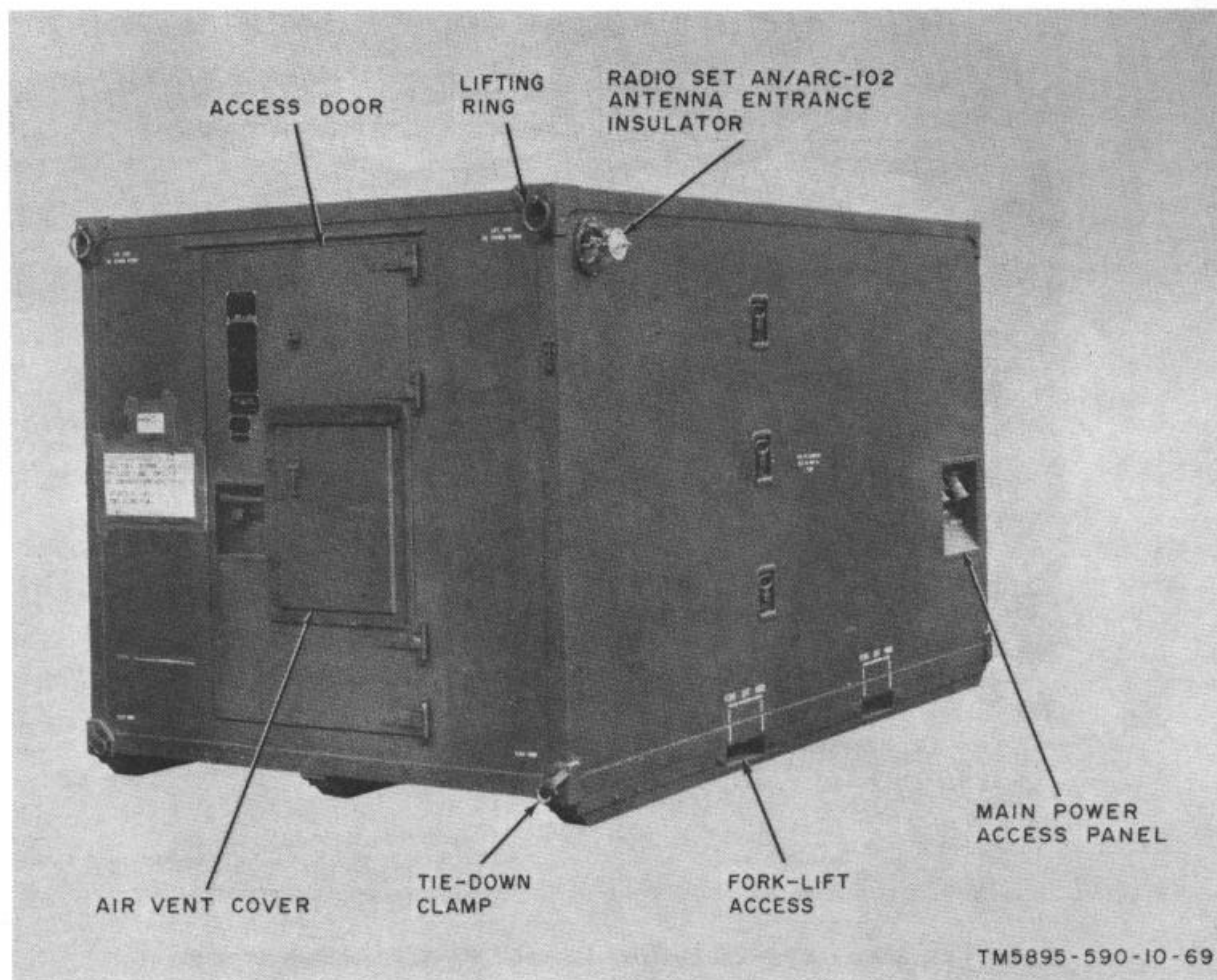

Figure 1-24. Shelter, Electrical Equipment S-417/FSQ-75(V), oblique front view.
a. Shelter, Electrical Equipment S-417/FSQ-75(V) (fig. 1-24 and 1-25).
(1) The equipment shelter is an insulated structure that houses components of the radio group. An entrance door with an air vent and a filter is provided in the rear wall; the front wall contains four vents for installation of accessory air conditioning units not supplied with the equipment shelter. Interior wiring, electrical outlets, fluorescent lamps, an exhaust fan, and a workbench are permanent parts of the equipment shelter. The unit is also outfitted with housekeeping and firefighting equipment.
(2) Power is connected to the equipment shelter circuit breakers through the main power access